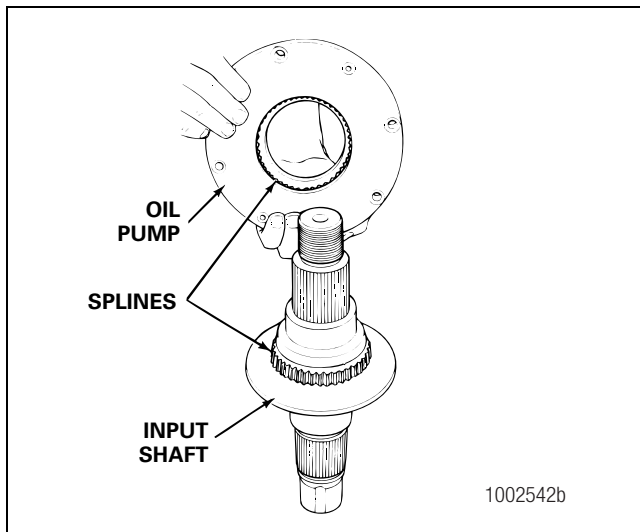

Figure 5.70
- **If a spline design pump is used:** Verify that the splines in the pump are aligned with the splines on the shaft. Figure 5.70.